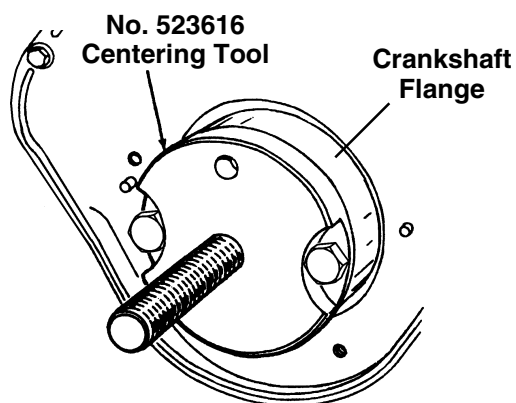

Figure 3
1. Fasten No. 523616 centering tool to the crankshaft flange using two cap screws provided. See Fig. 3.